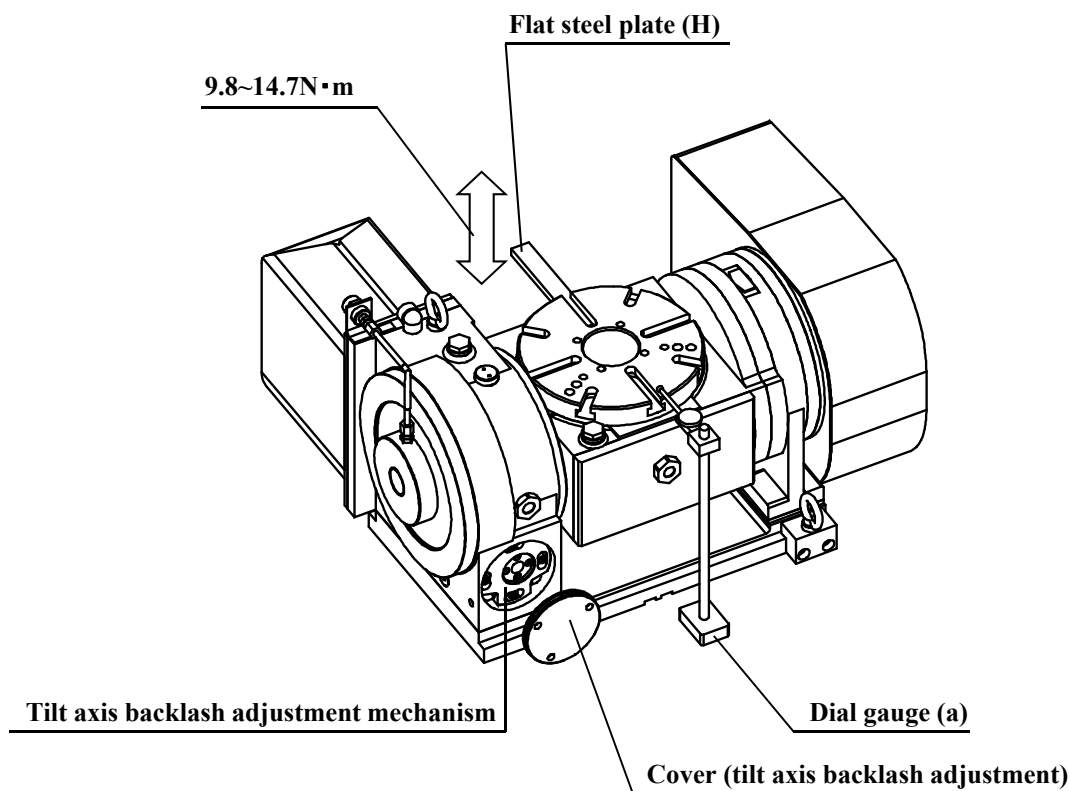

Fig. 11
Read a deflection of the dial gauge (a) by inserting the flat plate (H) into a T-slot and manoeuvre the faceplate by hand at 9.8 ~ 14.7Nm force as per Fig.11.